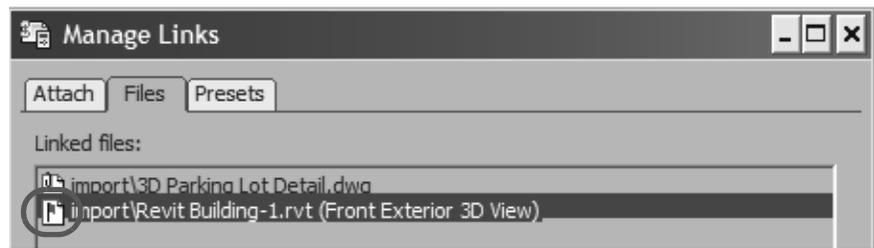

Figure 3–46
5. In the Manage Links dialog box, select the *Files* tab. Note that  displays in front of the .RVT filename (as shown in Figure 3–46), indicating that changes have been made to the original linked file.